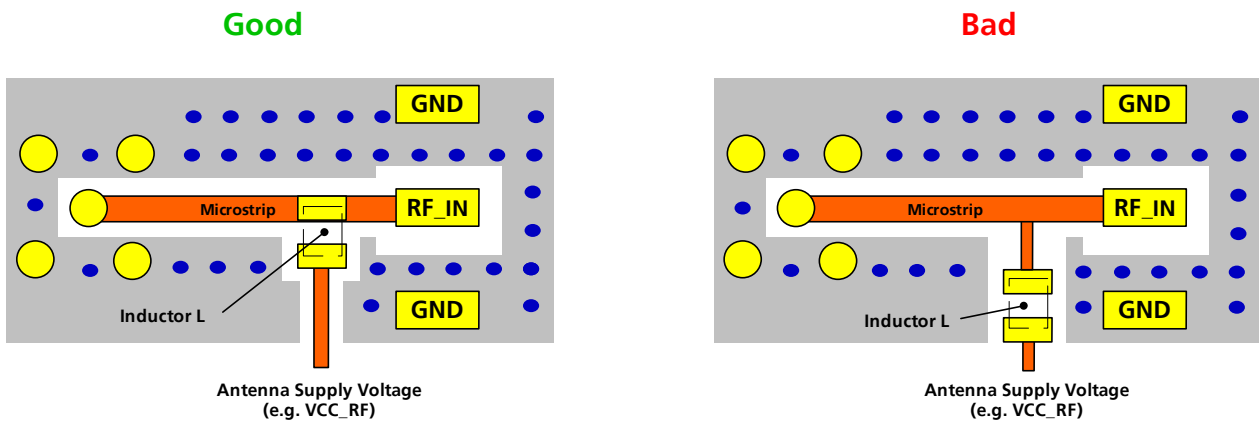

Figure 6: Recommended layout for connecting the antenna bias voltage for NEO-5
- For optimal performance, it is important to place the inductor as close to the microstrip as possible. Figure 6 illustrates the recommended layout and how it should not be done.